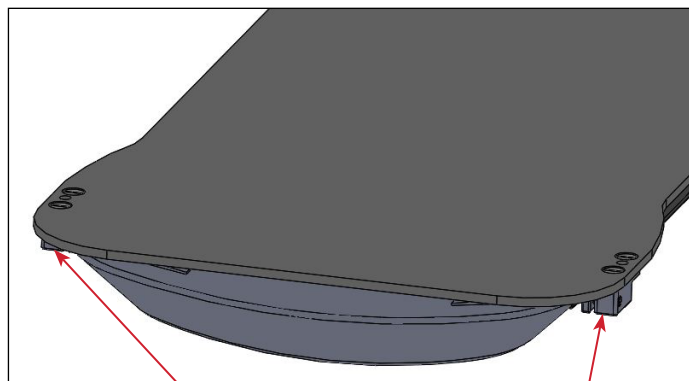

Fig. 39
3. Align the overlay on the cradle by tightening the M10 set screws on both the left and right cams as needed, using an M5 Allen wrench (Fig. 39 & 40).